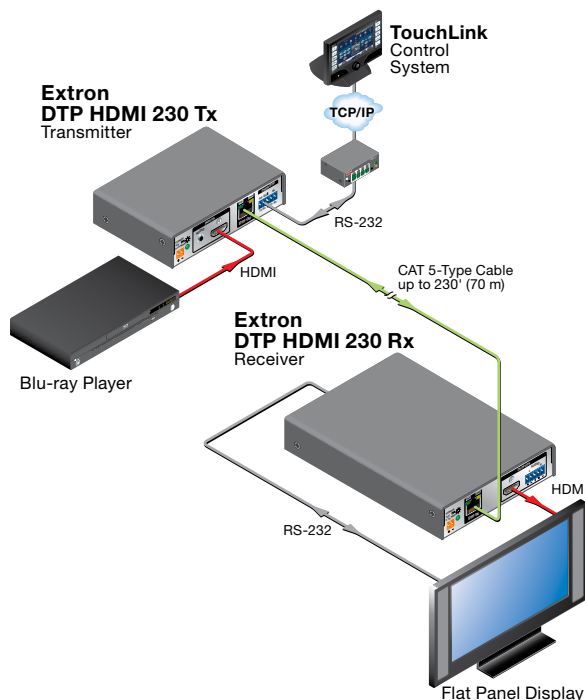

Figure 1. Typical Transmitter and Receiver Application
The Extron DTP HDMI 230 Tx/Rx transmitter and receiver pair (see figure 1) extends the usable distance of HDMI digital video, optional analog audio, and bidirectional RS-232 and infrared (IR) control signals over one Extron XTP DTP 24 shielded twisted pair (STP) cable (recommended) or Category (CAT) 5e, CAT 6, or CAT 6a STP or unshielded twisted pair (UTP) cable. The DTP HDMI 230 can also extend DVI video, which may include embedded audio, with the appropriate adapters. The video, audio, and control signals can be transmitted up to 230 feet (70 m).